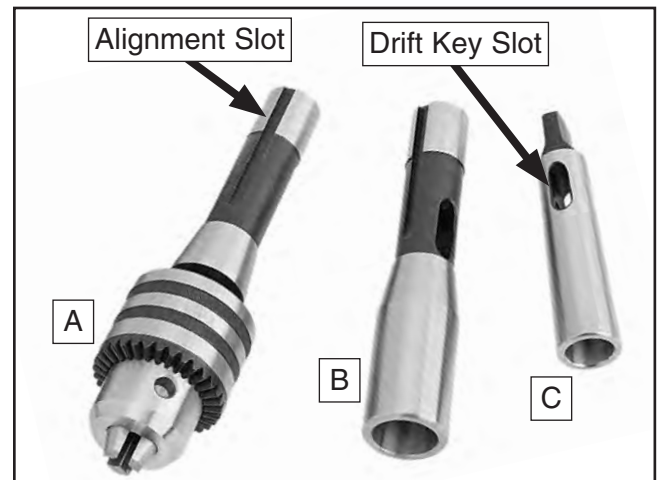

Figure 23. Tool and arbors included with Model G0761.
The Model G0761 includes the following spindle tools (see **Figure 23**):
3. Position tool alignment slot (see **Figure 23** on previous page) with pin inside spindle, then insert tooling into spindle until it contacts drawbar.